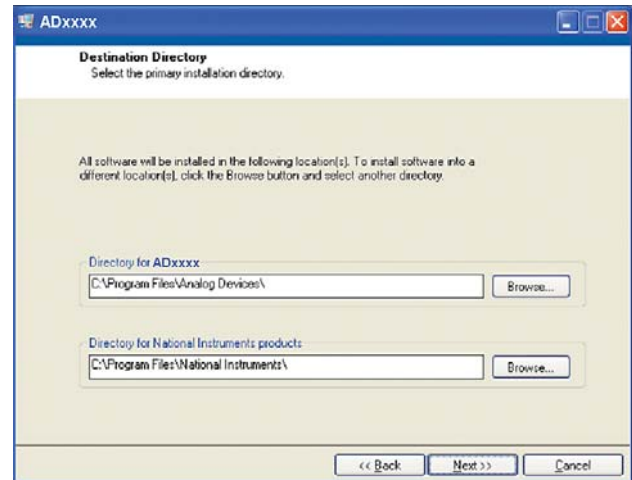

Figure 4. Evaluation Board Software Installation:
4. Select the location to install the software, and then click **Next**. Figure 4 shows the default installation locations, which are displayed when the window opens. To select a different installation location, click **Browse**.